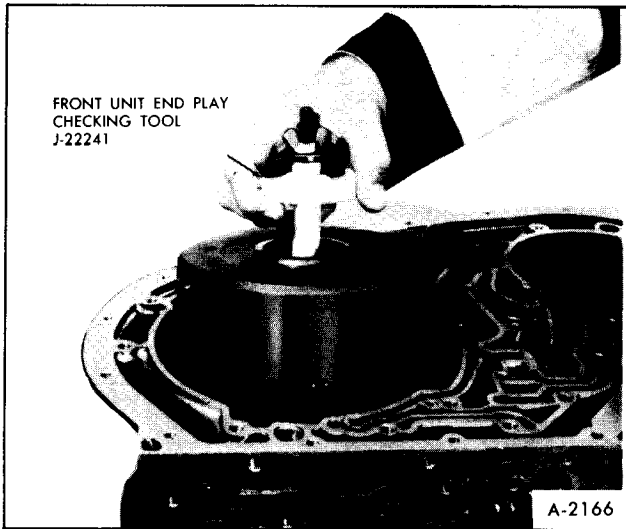

Figure 49—Removing Forward Clutch
1. Remove forward clutch assembly from transmission, Figure 49, by installing Front End Play Checking Tool, J-22241, into forward clutch and lifting forward clutch straight out.